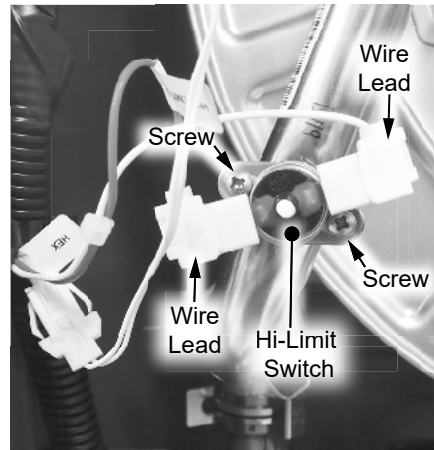

Figure 1 - Hi-Limit switch location
- 4 Locate the hi-limit switch on the outlet burner tube as shown in Figure 1. Disconnect the two (2) wire leads (labeled HIGH LIMIT 2) from the hi-limit switch and route them inside the water heater cabinet for ease of access to hi-limit.
- 5 Use a Phillips screwdriver to remove the two (2) screws securing the hi-limit switch to the outlet burner tube. Place screws aside in a safe place for reinstallation. See Figure 1.